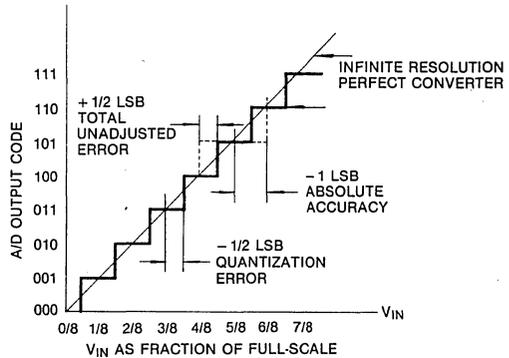
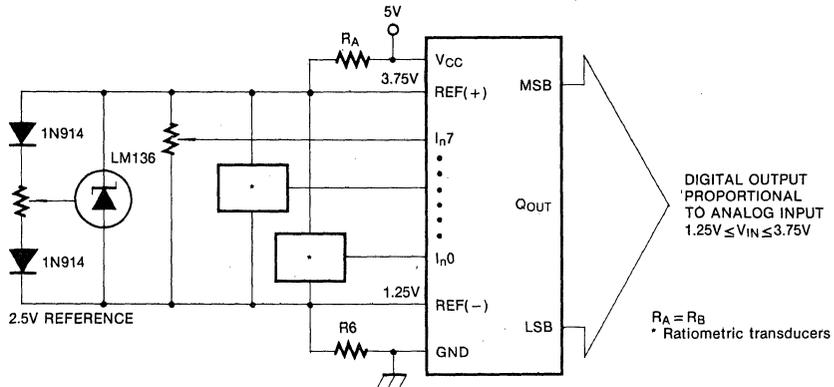

Fig. 3 3-Bit A/D Absolute Accuracy Curve
Fig. 13 Symmetrically Centered Reference
**Note 5:** Total unadjusted error includes offset, full-scale, linearity, and multiplexer errors. See Figure 3. None of those A/Ds requires a zero or full-scale adjust. However, if an all zero code is desired for an analog input other than 0.0V, or if a narrow full-scale span exists (for example: 0.5V to 4.5V full-scale) the reference voltages can be adjusted to achieve this. See Figure 13.
The top and bottom ladder voltages cannot exceed  $V_{CC}$  and ground, respectively, but they can be symmetrically less than  $V_{CC}$  and greater than ground. The center of the ladder voltage should always be near the center of the supply. Sensitivity of the converter can be increased, (i.e., size of the LSB steps decreased) by using a symmetrical reference system. In Figure 13, a 2.5V reference is symmetrically centered about  $V_{CC}/2$  since the same current flows in identical resistors. This system with a 2.5V reference allows the LSB bit to be half the size of a 5V reference system.